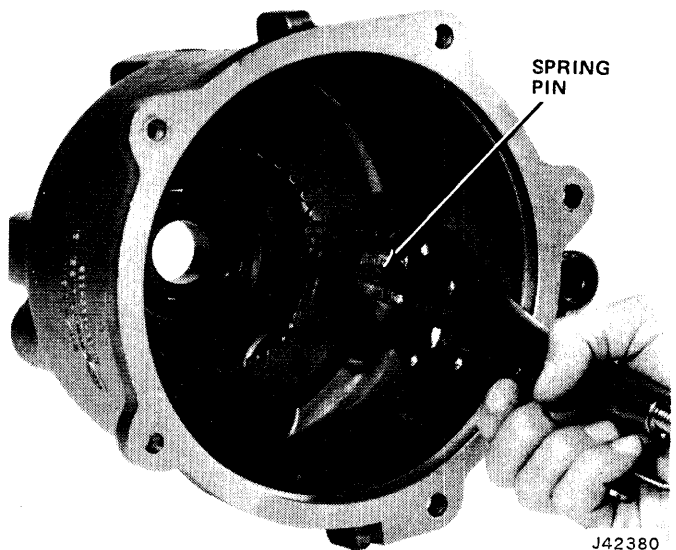
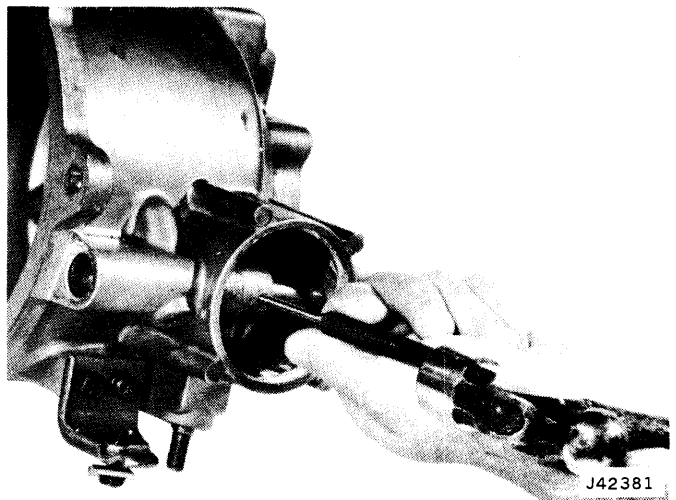

Fig. 8-31 Removing Shift Fork Locating Spring Pin
Fig. 8-32 Removing Spring Pin
- (1) Remove shift fork locating spring pin by pulling and rotating with pliers (fig. 8-31)
- (2) Remove large expansion plug.
- (3) Remove shift rail taper plugs.
- (4) Remove control lever from shift lever assembly.
- (5) Use 3/16-pin punch and drive spring pin from shift fork and shift rail (fig. 8-32).
- (6) Slide shift rail forward out of shift fork. Remove shift fork.
- (7) Remove shift rail poppet ball.